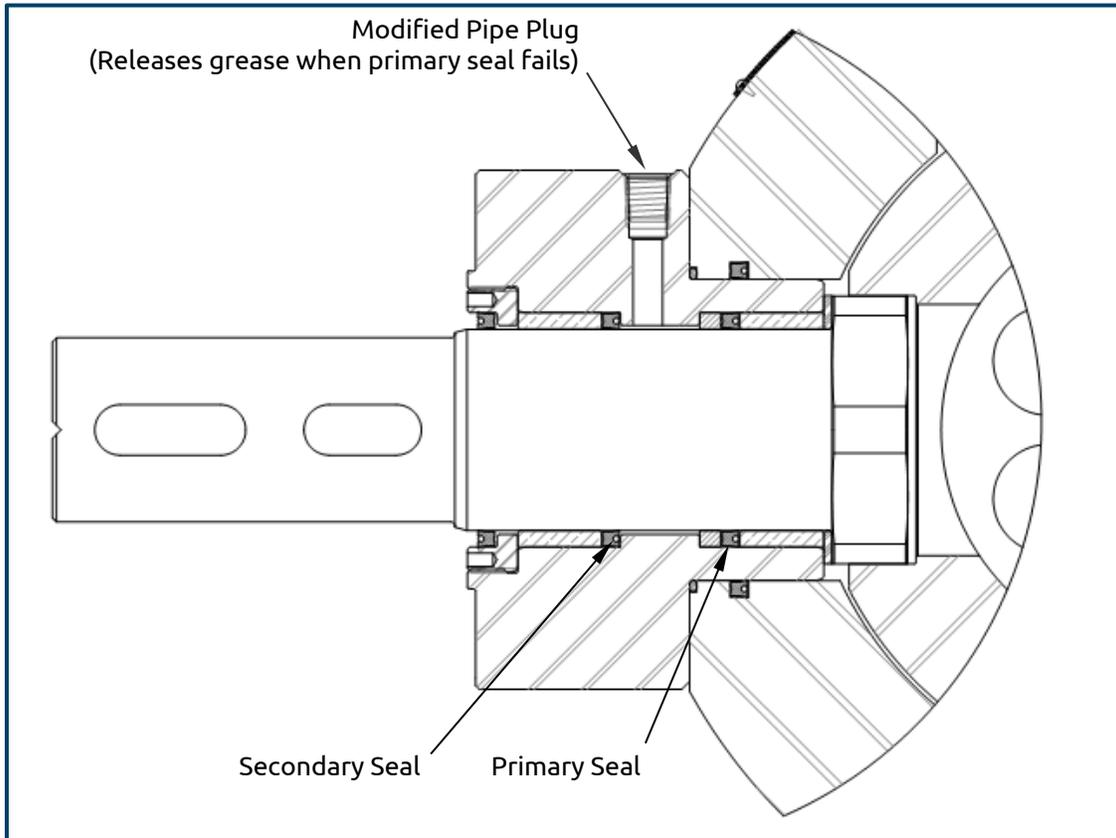

Figure 7: Stuffing Box Sub-Assembly c/w Modified Pipe Plug
3. 4" 1500, 6" 1500 and 8" 150-1500 ASME Class model P Pig Valves are equipped with a modified 3/8" pipe plug that has a built-in leak path (see Figure 7). Should the primary rotating stem seal fail a small amount of grease will be displaced thru this modified pipe plug.